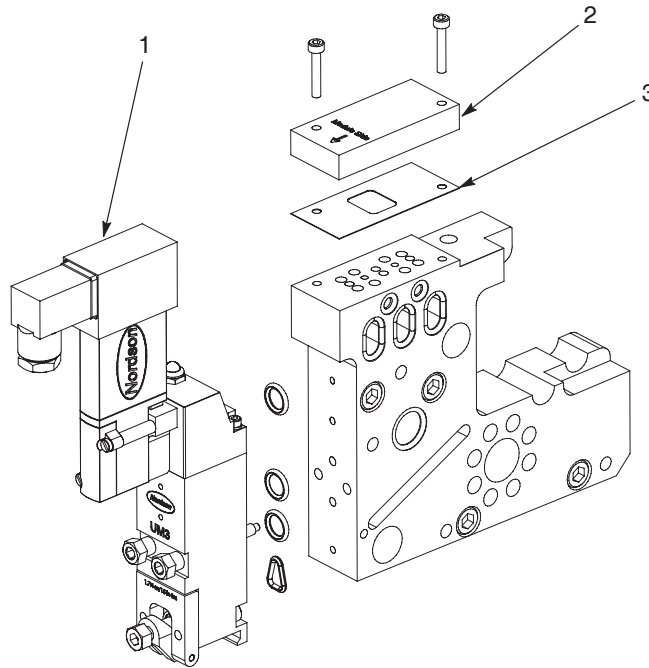

Figure 7-113 Flange-mounted solenoid valve components
1. See Figure 7-113. Using a 3-mm hex wrench, install the new UM3 modules with flange-mounted solenoid valves (1) on the applicator using the supplied 4-mm screws.
2. Using a 2.5-mm hex wrench, position the new solenoid valve diverter plates and gaskets (2) for the modules as shown in Figure 7-113 and secure these parts using the supplied 3-mm screws. Tighten the screws to 1.9–2.5 N·m (17–22 in.-lbs).